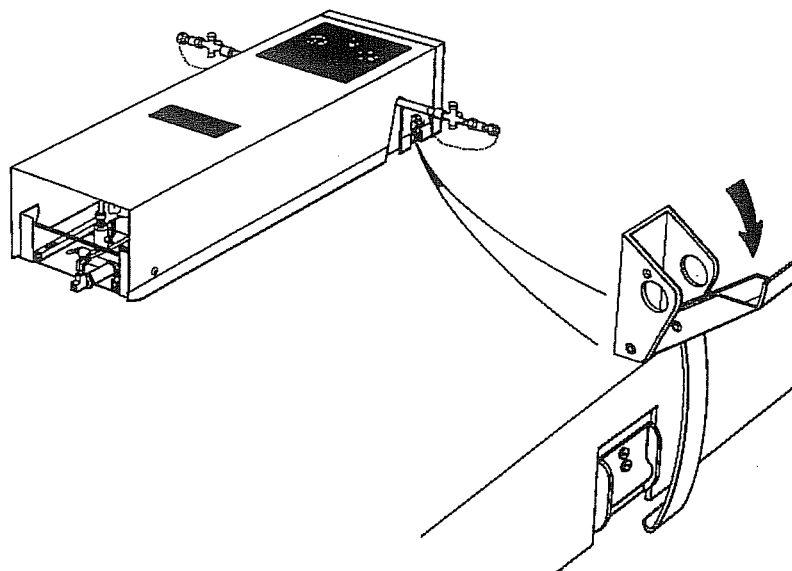

Figure 2-1
3. Release the latches at the top of the manifold cover (1 latch each side). (Figure 2-1)